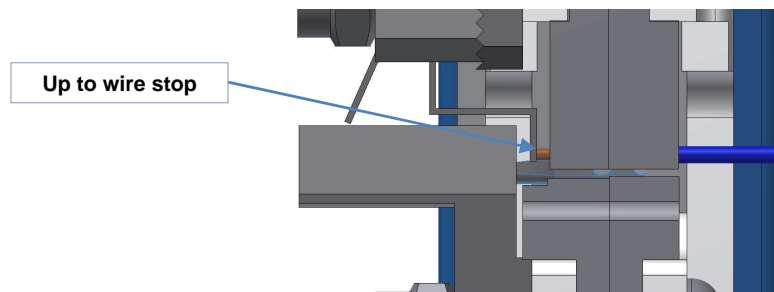

Abb. 5 : Wire inserted up to wire stop
- Push the wire into the contact until it reaches the wire stop (see Fig. 5).